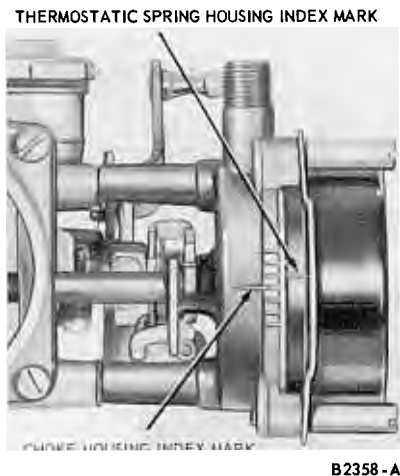

FIG. 12—Automatic Choke Thermostatic Spring Housing Adjustment—Typical
2. Loosen the thermostatic spring housing clamp retaining screws. Set the spring housing to the specified (Part 10-8) index mark (Fig. 12) and tighten the clamp retaining screws.